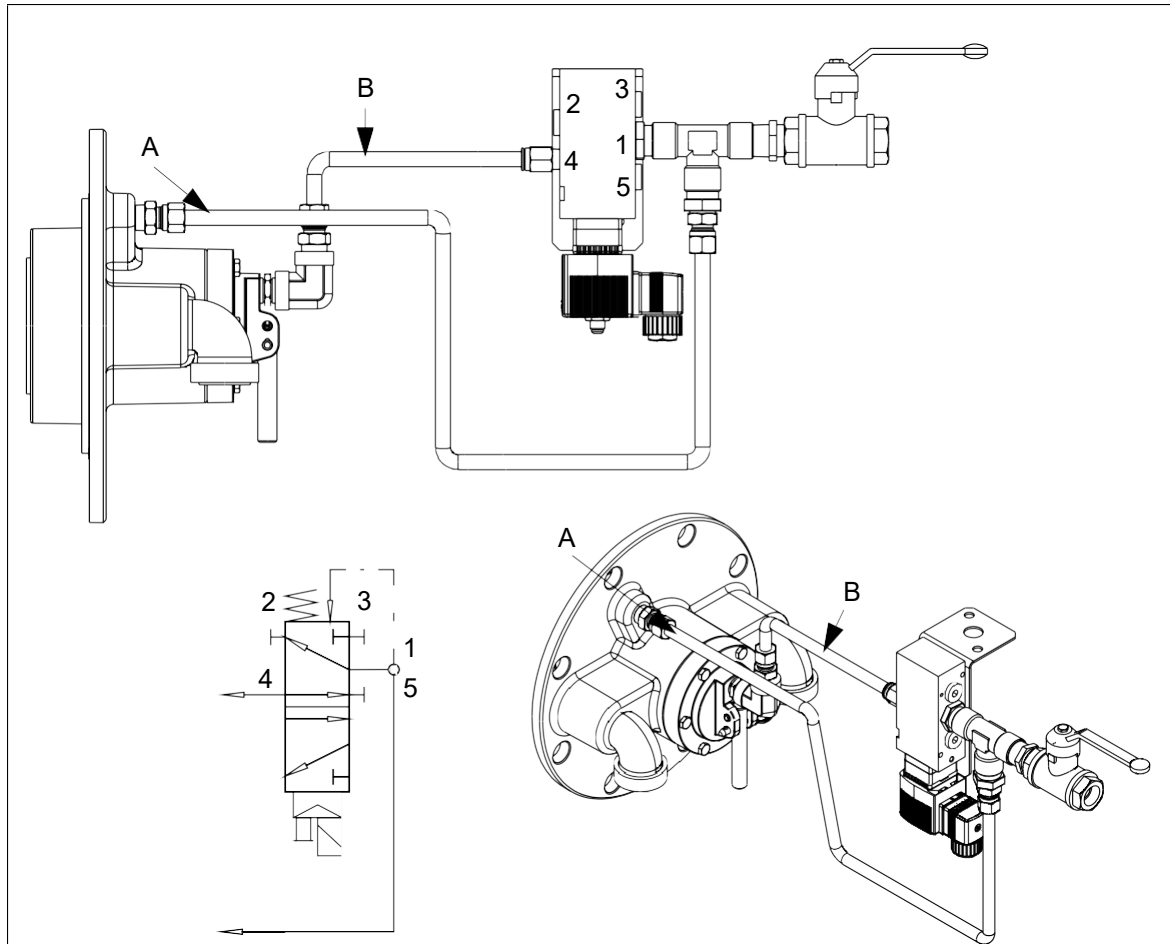

Fig. 4: Pneumatic connection of a 5/2-way valve - ISO-metric view
1. Install the pneumatic supply at the connection (1 Fig. 4, 5) on the rear side of the solenoid.
2. Install the filling line from the connection (1 Fig. 4, 5) to the connection (A Fig. 4, 5) of the valve.
3. Install the control line from connection (4 Fig. 4, 5) of the solenoid to the control connection (B Fig. 4, 5) of the valve.
5. Install a silencer optionally at the connection (5 Fig. 4, 5) on the rear side of the solenoid.